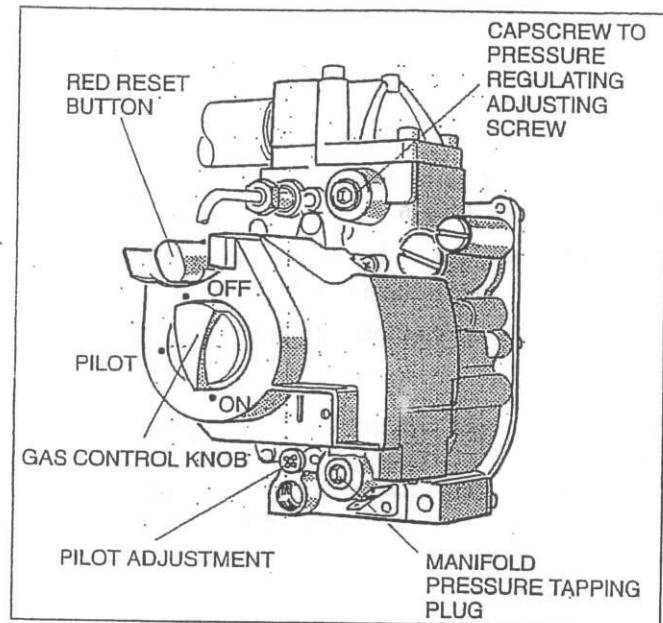
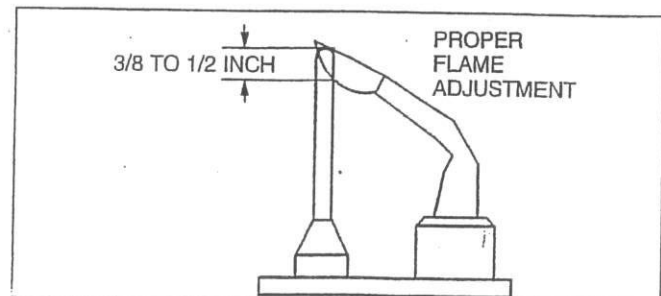

Fig.9
Fig.10
42. Observe the pilot flame through hole in the burner assembly plate. The flame should envelop the thermocouple $3/8 - 1/2$ inch, fig. 10. If the pilot flame is satisfactory then go to step 43. If the pilot flame is too small or too large, adjust the pilot using the pilot adjustment screw., fig. 9. Turn the inner adjustment screw clockwise  to decrease, or counterclockwise  to increase the pilot flame. After adjustment, replace the cover screw and tighten firmly.